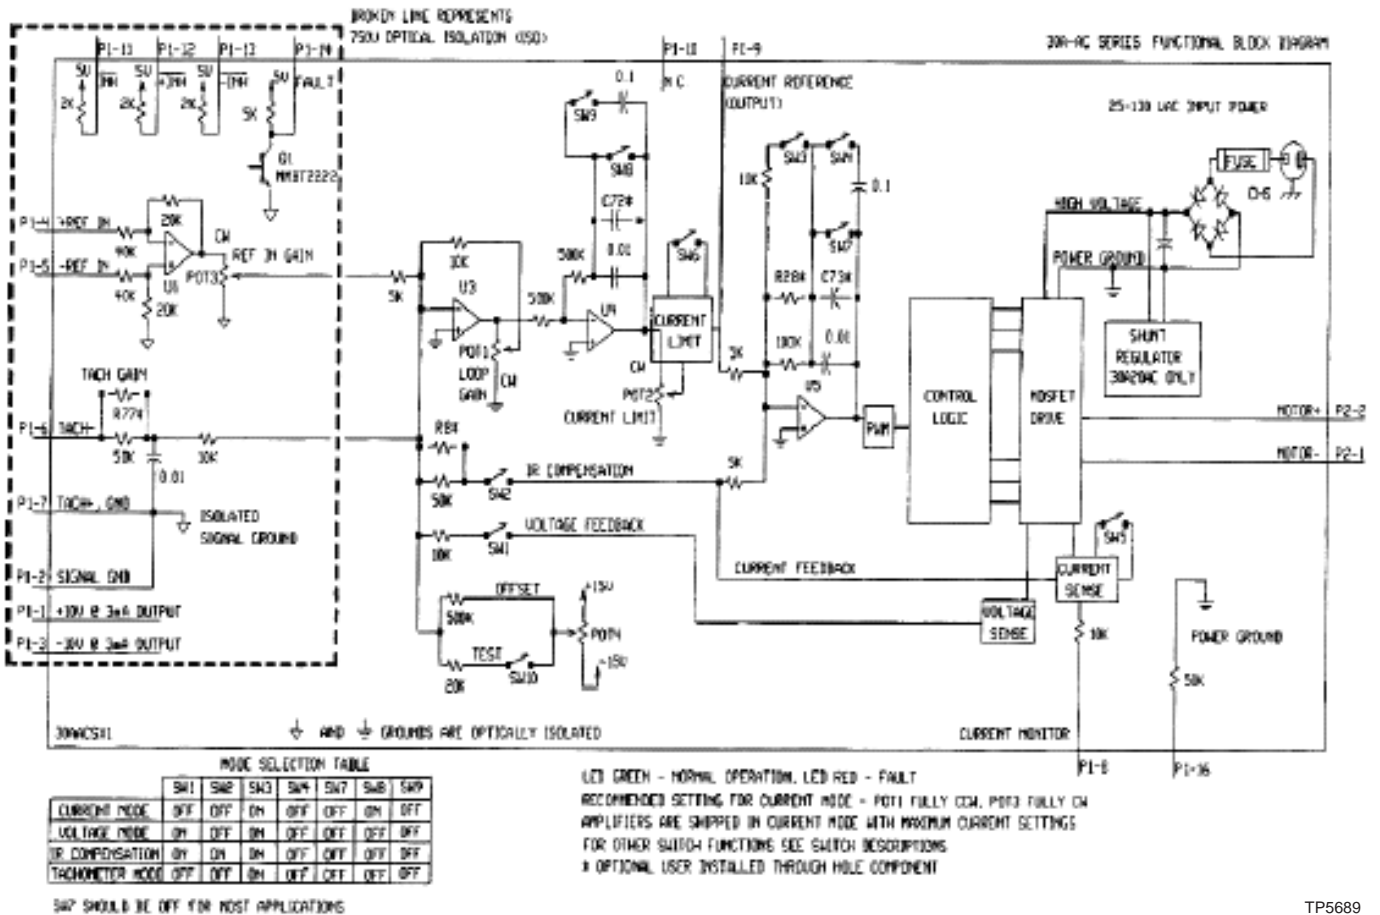

Figure 5.1 - Functional Block Diagram
- Built-In Optical Isolation (see Figure 5.1)
These amplifiers feature an internally installed analog isolation amplifier, which optically isolates the inputs from the rest of the amplifier circuitry. See Functional Block Diagram, Figure 5.1.